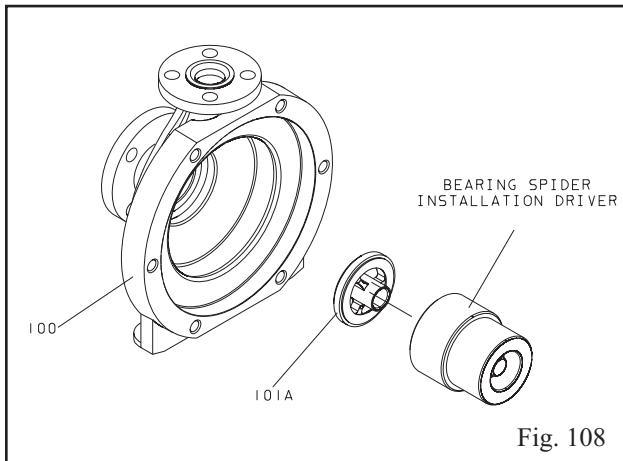

Fig. 108
6. Press spider (101A) into casing (100) with spider tool (Fig. 108).